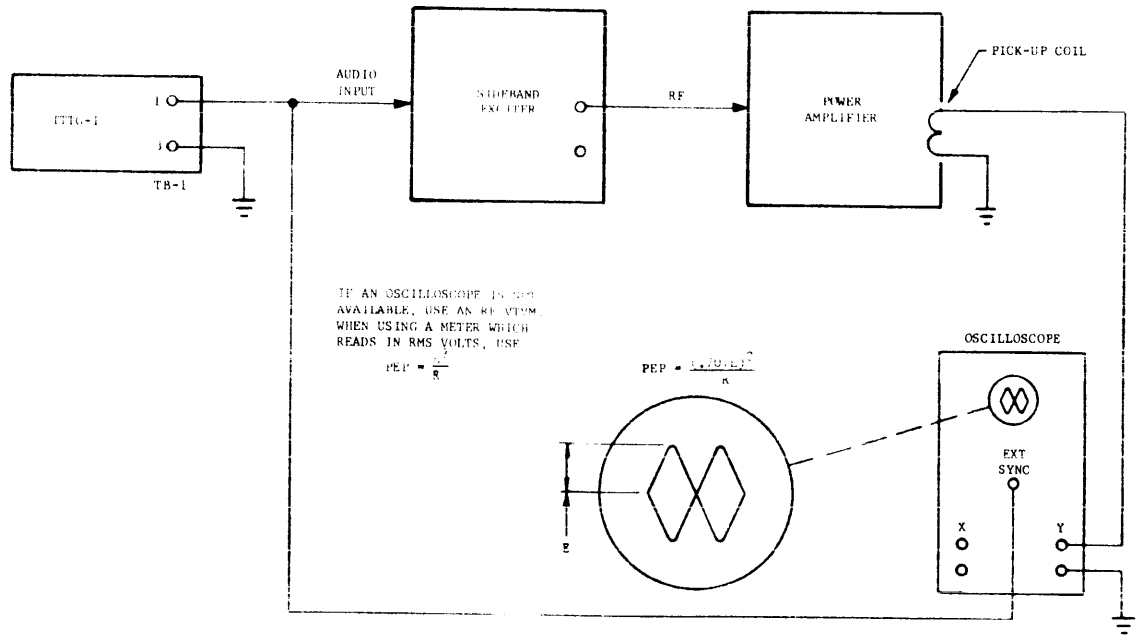

FIGURE 3-2. TWO-TONE MEASUREMENT OF PEAK-ENVELOPE POWER
- b. Connect generator to audio input stage of single-sideband transmitter and to EXT, SYNC input of oscilloscope as indicated in figure 3-2.
- c. Using pick-up coil or RF monitor of linear amplifier, couple to vertical input of oscilloscope as shown in figure 3-2.
- f. Ensure that oscilloscope is calibrated and adjust oscilloscope controls to obtain scope picture as illustrated in figure 3-2.